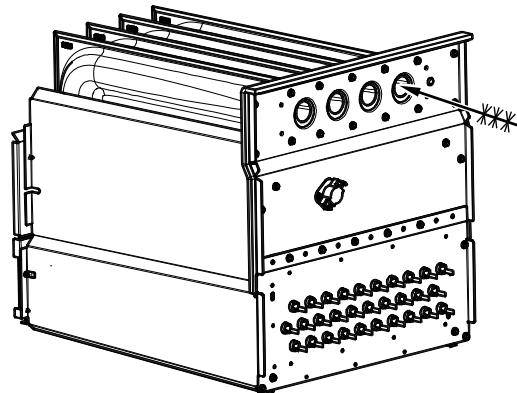

Fig. 70 – Cleaning Heat Exchanger Cell
7. Clean heat exchanger openings with a vacuum and a soft brush. See Fig. 70.
8. Reverse items 6 through 1 for reassembly.